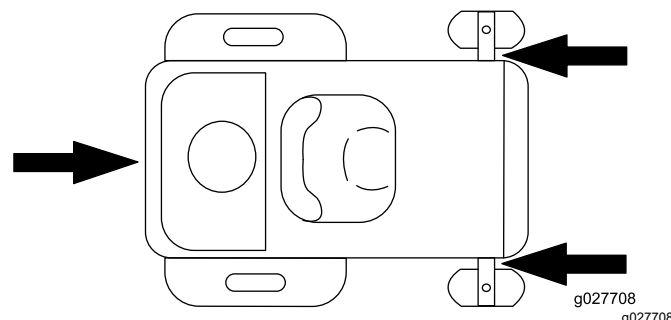

Figure 30
6. Tie down the machine near the front caster wheels and the rear frame with straps, chains, cable, or ropes (Figure 30). Refer to local regulations for tie-down requirements.